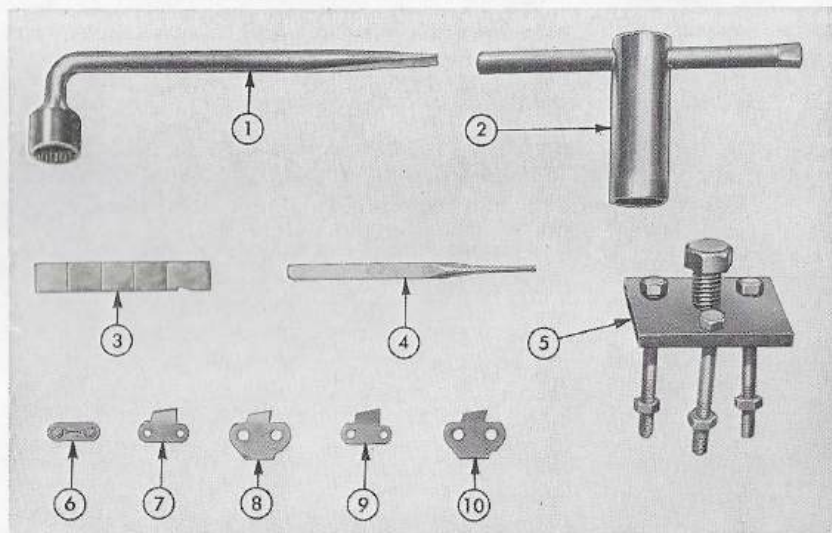

Figure 11—Tool Kit and Replacement Chain Links
(1) This section deals with points of daily maintenance and inspection. The most important points to insure proper engine performance are ignition, carburetion and compression. If trouble develops, look for it in this order.
(2) A group of service tools and a chain repair kit are shipped with each saw. (See Figure 11.) (Magneto Rotor Puller, AA-22560, No Longer Supplied.)